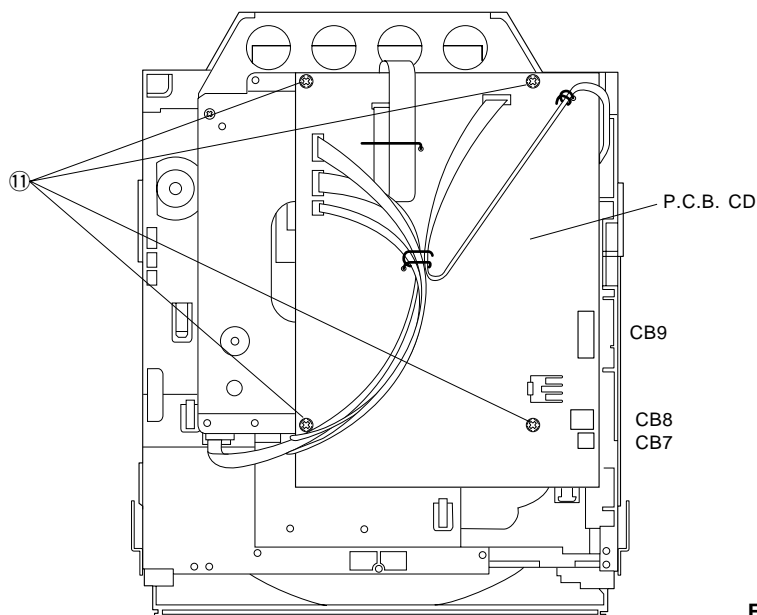
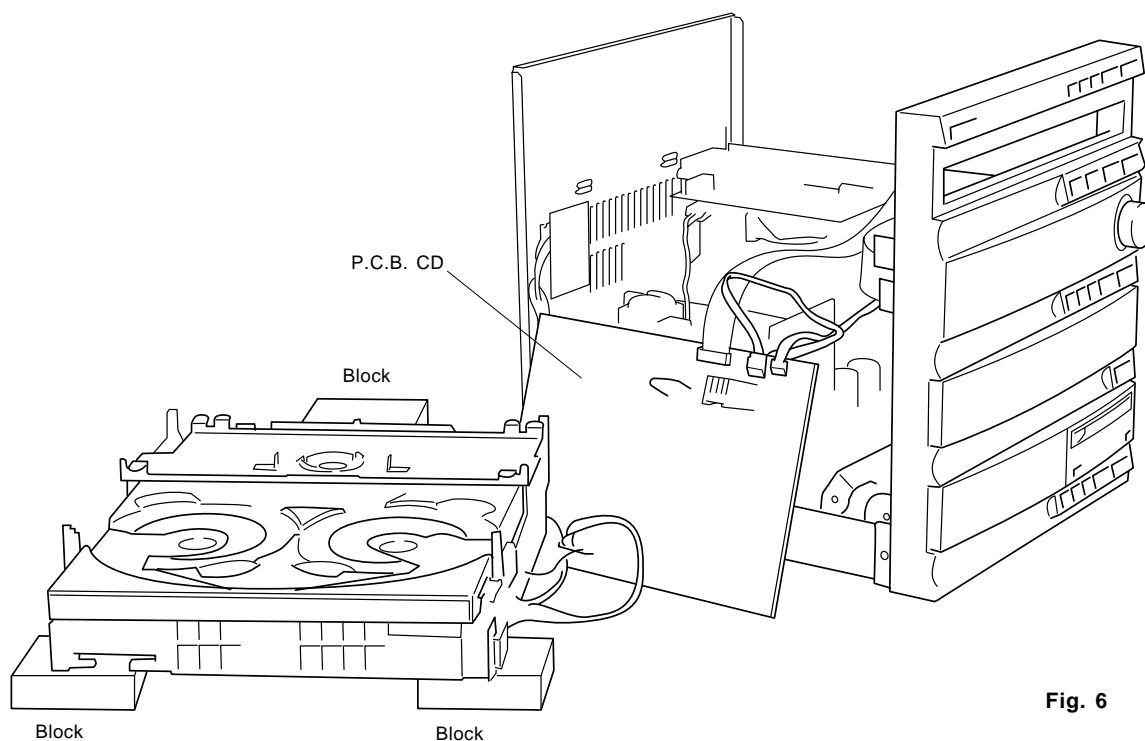

Fig. 5
Fig. 6
- Remove 4 screws (⑪) and then remove the P.C.B. CD in Fig. 5.
- Place blocks (at 3 locations) to hold the CD Mechanical Unit horizontally as shown in the Fig. 6.
- Connect the Flat Connecting Cable (CB9) and 2 connectors (CB8 and CB7) in Fig. 5 and Fig. 6.